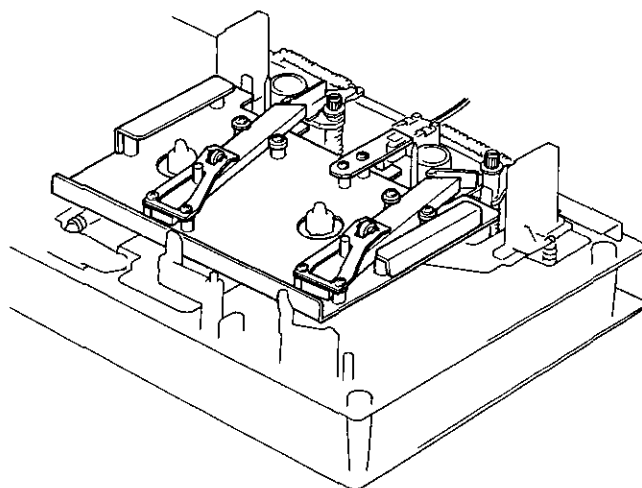

Fig. 4.9
Remove Head Mount Base Ass'y referring to item 2.29. Refer to Figs. 4.9 and 4.10.